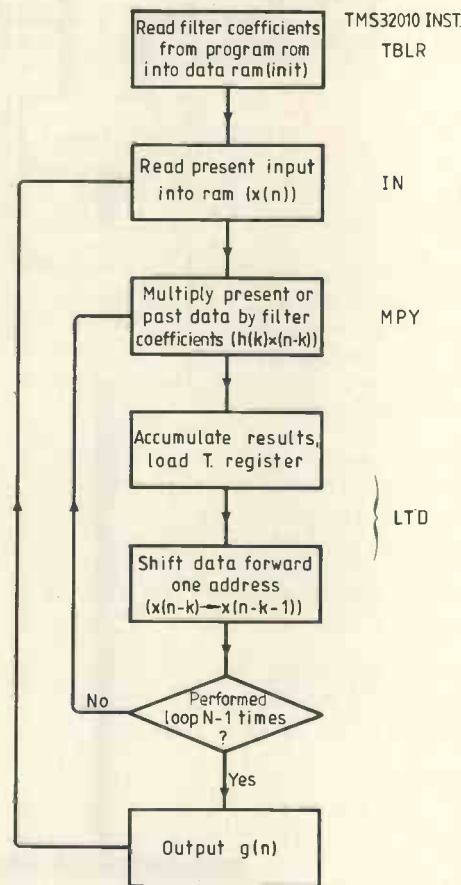

Fig.4. Flow diagram showing implementation of FIR filter
The main steps of implementing a Finite Impulse Response (FIR) filter are shown in Fig. 4. The coefficients, $h(k)$, which are
The input sequence $x(n)$ is stored as shown in Fig. 4. Generally each of the multiplies and shifts of $x(n)$ in (3) are implemented with an instruction pair in the form